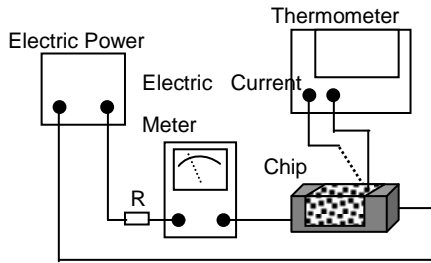

Fig. 5.3.3-1
- d. Definition of Rated Current (I_r): I_r is direct electric current as chip surface temperature rose just 20°C against chip initial surface temperature (T_a) (see **Fig. 5.3.3-2**)